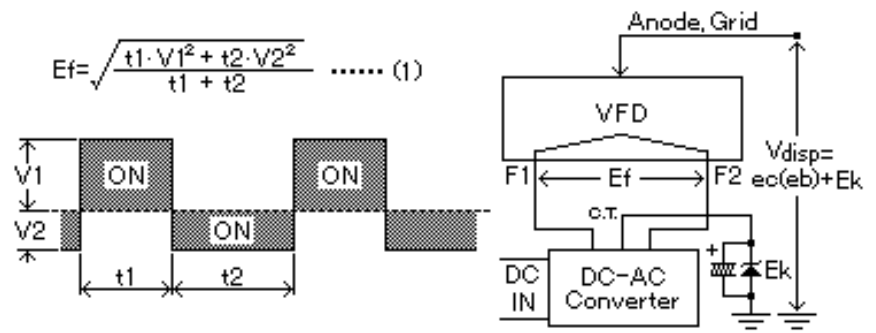

Fig.13 DC to AC Converter
In the case of a DC or battery power supply, a pulse wave form for the filaments can be generated from a DC to AC converter. The concept of pulse voltage supply to the filaments is the same as AC filament drive. In either case Noritake still recommends the DC to AC converter with a center-tap as shown in Fig.13. Please note that the pulse voltage should be calculated as an RMS (root mean square) value from the wave form as shown in formula (1).